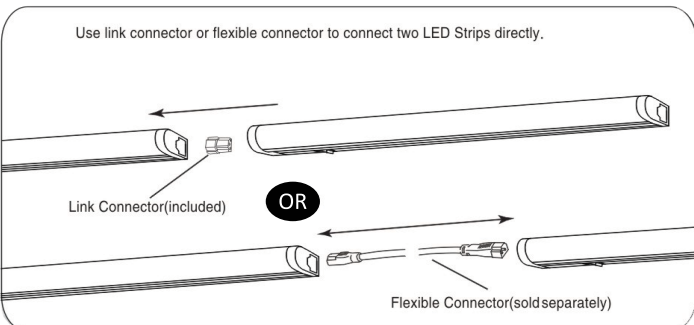

Figure 5
- 6) Link together up to 10 fixtures end-to-end with the link connector (included) or distance 12" or 36" apart with flexible interconnecting wire (LS3-CON12 or LS3-CON36). (Figure 5)